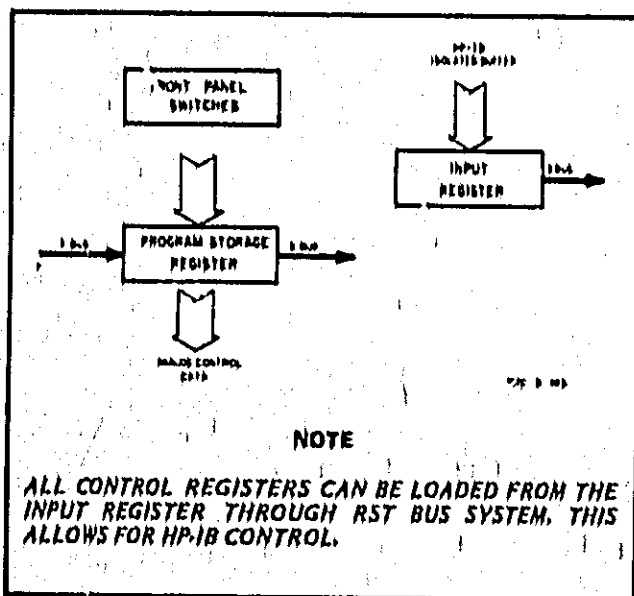

Figure 4-17. Inputs to the ASM.
4-93. The Front Panel Switches are enabled when the 3570A is in the Local Mode of operation. The switches are directly connected to the Program Storage (PS) Register. The PS Register is comprised of two four-bit shift registers. The two shift registers have both serial and parallel inputs and outputs. The serial input is the T Bus and the parallel inputs are the Front Panel Switches. The serial output is the S Bus and the parallel outputs are the Control Data Lines (see Figure 4-17). The Offset and Limit Sweep Restart switches are not connected to the PS Register and are used as one of the means to set the Data Flag. Delay Switches (Options 002, 003) are directly connected to the Delay (D) Register which operates in a manner similar to the PS Register.